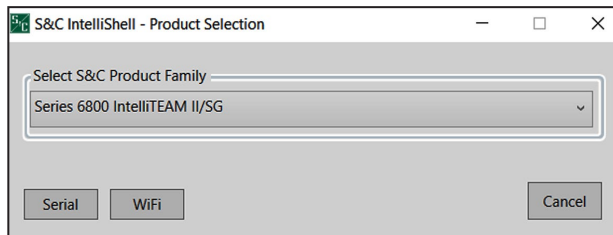

Figure 13. The S&C IntelliShell—Product Selection dialog box.
**STEP 2.** Select the **Series 6800 IntelliTeam II/SG** option to update a 6800 Series control. Click on either the **Serial** or **Wi-Fi** button based on the communication method used to connect to the control. See Figure 13.